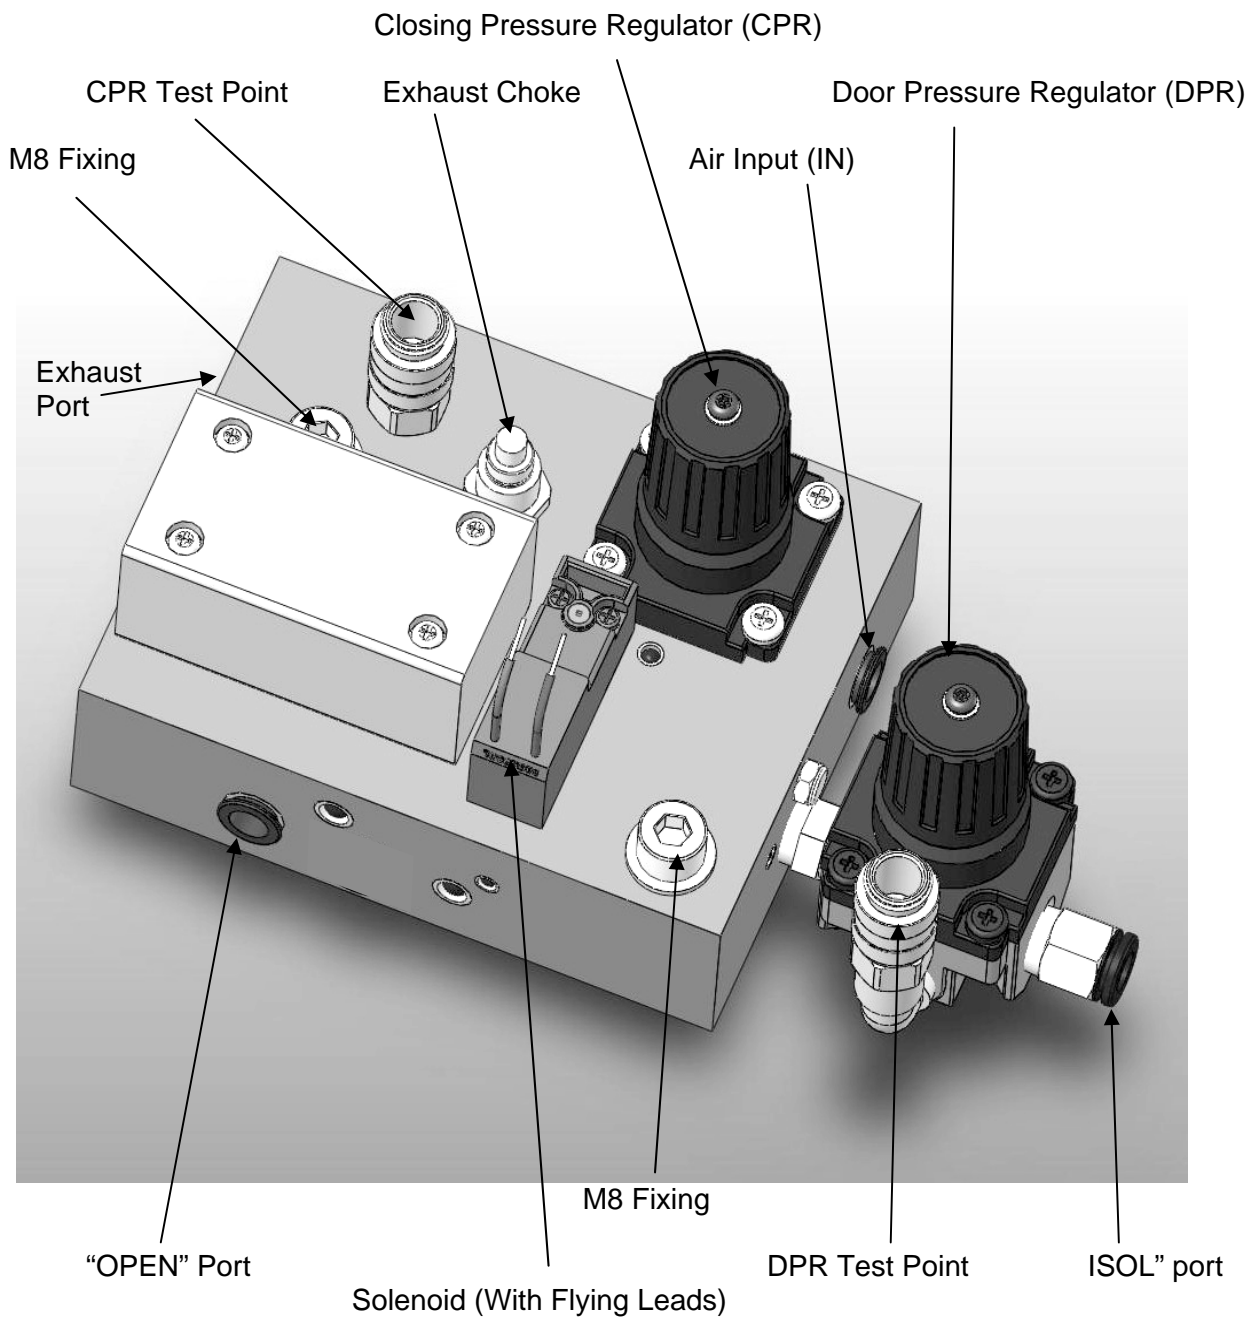

Figure 9: Door Control Pneumatic Module
- 4.6 Connect a Druck gauge (or equivalent) and adaptor to the Door Pressure Regulator (DPR) test point (see Figure 9).
- 4.8 Remove the Druck gauge and adaptor and connect to the door Closing Pressure Regulator (CPR) test point (see Figure 9).
- 5.5 Adjust the door open speed on the control panel. Fit a pressure gauge to the Door Pressure Regulator (DPR) test point (see Figure 9). Remove the Torx tamper proof screw. Lift the regulator knob to release the lock. Adjust the pressure to 2.0 bar. Press down the regulator lock. Recheck the pressure. Refit the Torx tamper proof screws. Remove the pressure gauge.
- 5.8 Adjust the closing speed on the control panel. Fit a pressure gauge to the Closing Pressure Regulator (CPR) (see Figure 9). Remove the Torx tamper proof screw. Lift the regulator knob to release the lock. Adjust the pressure to 0.5 bar. Press down the regulator lock. Recheck the pressure. Refit the Torx tamper proof screw. Remove the pressure gauge.